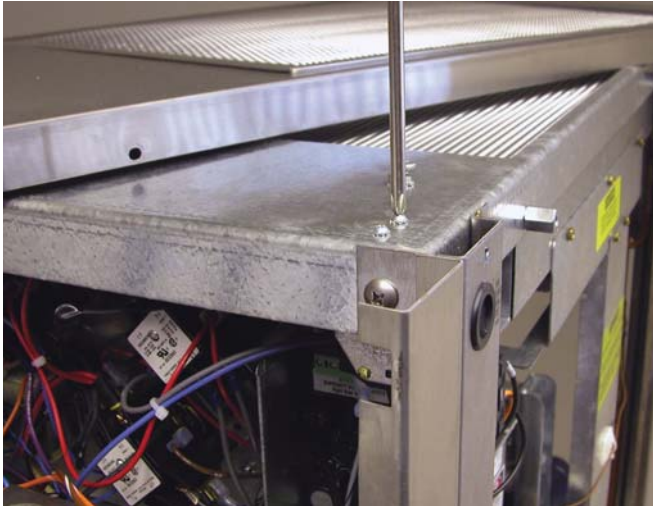

Figure 5-6 High Pressure Cutout Removal
- E. Remove two screws from top of machine (Refer to Figure 5-6).